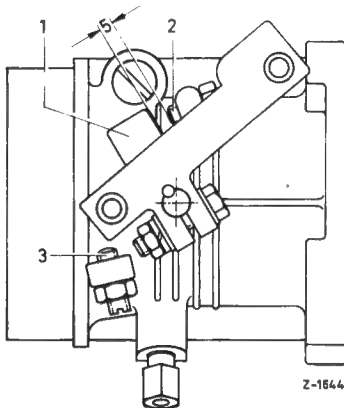

Fig. 27-4/3
Screw kickdown switch into the cover plate of the steering column jacket to the point where the throttle valve lever (1) is located approx. $\frac{3}{16}$ " from the full load stop screw (2) (Fig. 27-4/3) while the gas pedal rests against the kickdown switch (position B). When the gas pedal is depressed to kickdown (position C), there should still be a play of approx. $\frac{3}{64}$ " between throttle valve lever and full load stop on the venturi control unit housing. The adjusting lever of the injection pump, on the other hand, should rest against the full load stop (only for cars with injection engines).